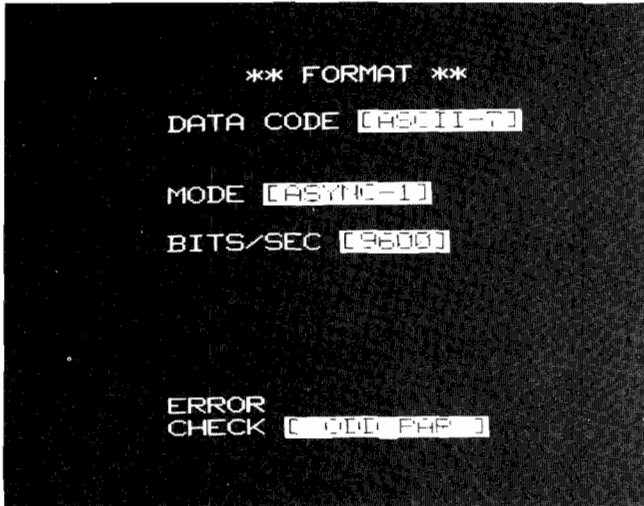

Figure 16-15 1640A Factory Data Link Format Selection (Simulation Mode)
- 1) Press the FORMAT key to display the Format parameters. Configure the Format as shown in figure 16-15.